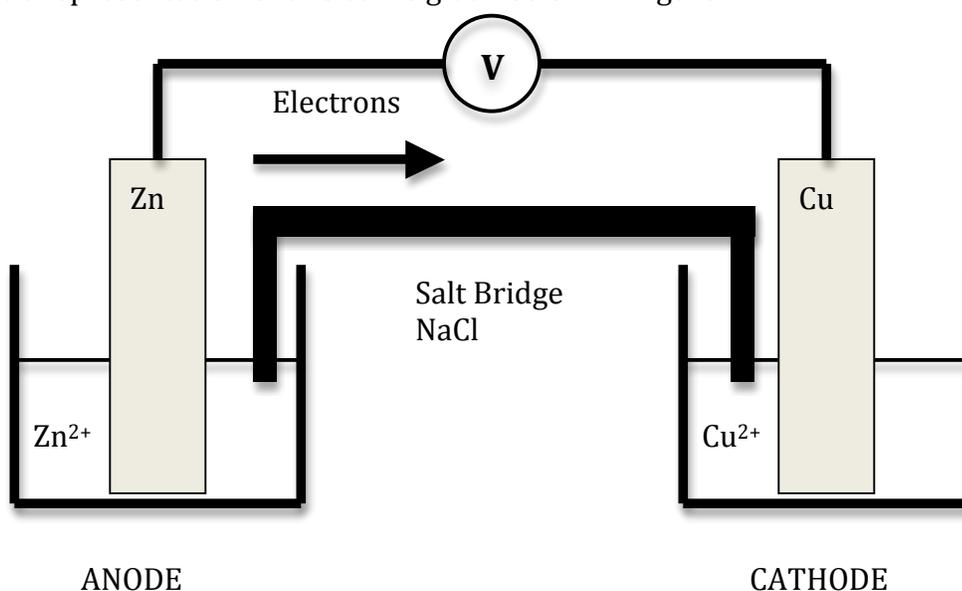

FIGURE 1: ELECTROCHEMICAL CELL
A schematic representation of this cell is given below in Figure 1.
The line diagram for the electrochemical cell shown in Figure 1 is written as follows:
- Using the zinc/copper cell diagram shown in Figure 1 as an example, draw labeled diagrams for the other two cells used in this experiment.